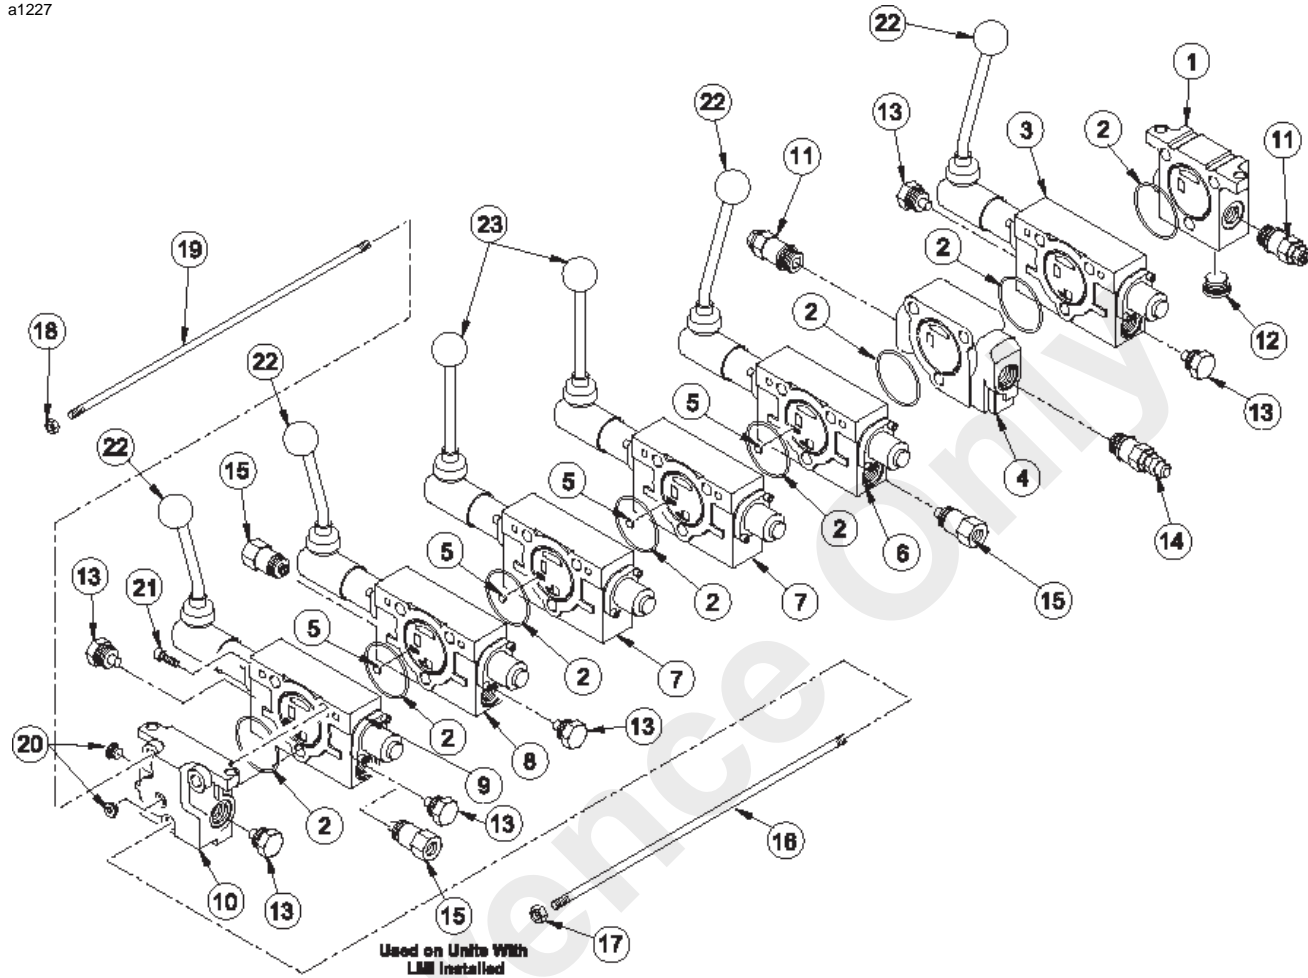
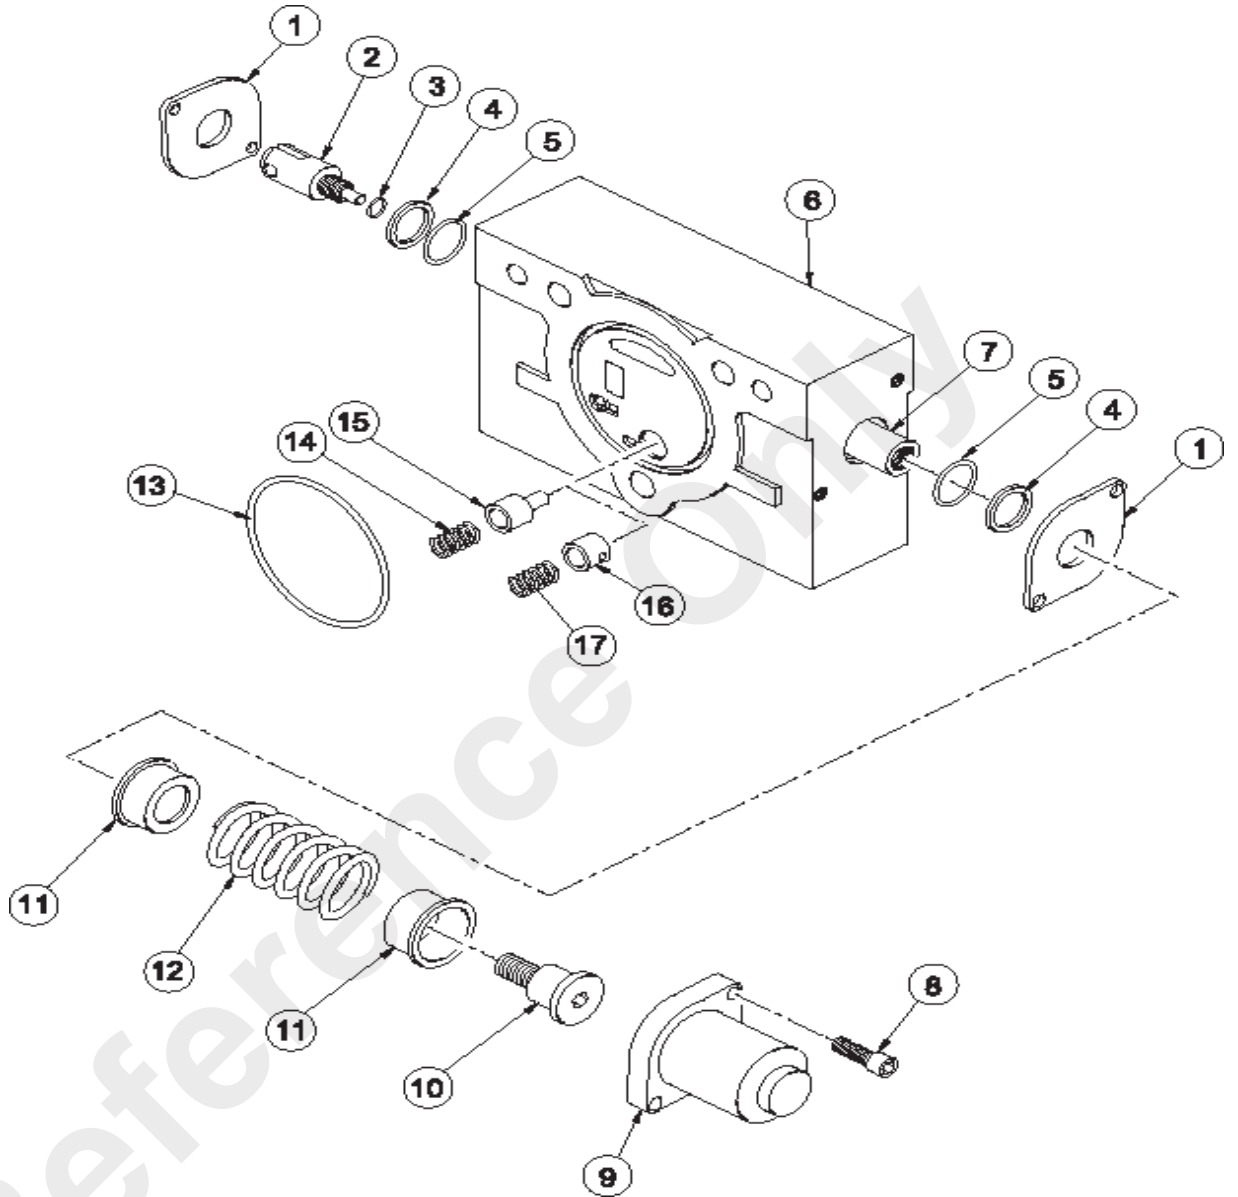

FIGURE 4-55
FIGURE 4-56
- Position the valve with the outlet section (10, Figure 4-55) facing up.
- Remove the three nuts (17 and 18) from the studs (16 and 19) at the outlet section (10).
- Slowly, lift the outlet section (10) from the studs.
- Slowly, lift the mid-inlet valve section (4) from the studs.
- Slowly, lift working valve section (3) from the studs.
- Remove the studs (16 and 19) from inlet section (1).
- Remove and discard O-rings (2, Figure 4-55) from the valve sections.
- Remove load sense shuttle disc (5) from valve sections (6, 7 and 8).
- Remove load check spring (14 or 17, Figure 4-56) and load check poppet (15 or 16).
- Remove cap assembly (9) by removing the two socket head cap screws (9).
- On the opposite end, remove the handle assembly (22 or 23, Figure 4-55) by removing two socket head cap
screws (21) and a roll pin. Remove seal plate (1). Remove and discard wiper seal (4, Figure 4-56) and O-ring (5).
4. Slowly loosen spool end shoulder screw (10, Figure 4-56). The screw is under pressure from spring (12), be sure to hold the spring seats (11) and spring (12) when removing screw (10).
5. Remove spring seats (11) and spring (12). Remove seal plate (1). Remove and discard wiper seal (4, Figure 4-56) and O-ring (5).
6. If equipped, remove anti-void valve assembly (15, Figure 4-55)
7. If equipped, remove port relief (11).
8. Remove shut-off plug(s) (13).
9. If a valve spool (7, Figure 4-56) must be removed, keep it with its valve housing (6). Do not mix valve spools and valve housings.
2. Coat all seals with a light coat of hydraulic oil, and then install O-ring (4, Figure 4-56), and wiper seal (5) into valve section (6) at the spring end. Locate seal plate (1) over the wiper seal.
3. Using shoulder bolt (10), attach spring seats (11) and spring (12) to valve spool (7). Tighten the shoulder bolt (10) to 8.2 - 10.8 Nm (6 - 8 lb-ft).
4. Install end cap (9) and secure with two socket head cap screws (8). Tighten to a torque of 8.2 - 10.8 Nm (6 - 8 lb-ft).
5. Install O-ring (5) and wiper seal (4) into housing (6). Install seal plate (1, Figure 4-56) and handle assembly (22 or 23, Figure 4-55). Tighten to a torque of 8.2 - 10.8 Nm (6 - 8 lb-ft).
6. If equipped, install the shut-off plug(s) (13). Tighten to a torque of 39.4 - 50.0 Nm (29 - 36 lb-ft).
7. If equipped, install the anti-void valve assembly (15). Tighten to a torque of 39.4 - 50.0 Nm (29 - 36 lb-ft).
8. If equipped, install port relief valve (11). Tighten to a torque of 39.4 - 50.0 Nm (29 - 36 lb-ft).
3. Place O-ring (2) in position on the face of the inlet section.
4. Place the first spool valve section (3) (Swing), O-ring side up over the studs onto inlet section (1). Place O-ring (2) in position on the face of the valve section. Install the load check poppet (15 or 16, Figure 4-55) and spring (14 or 17) into the load check cavity. Be sure the nose of the check poppet is facing down.
5. Install mid-inlet section (4) over the studs and onto valve section (3). Position O-ring (2) on the mid-inlet section (4).
6. Install the second spool valve section (6) (Telescope). Position O-ring (2) on the valve section. Install load sense shuttle disc (5).
7. Repeat step 6 for the remaining valve sections. The last spool section (Lift) does not require item 5 (load sense shuttle disc) to be installed.